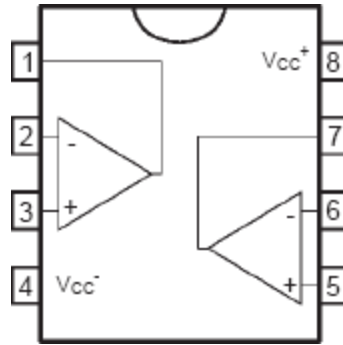

Figure 7: TL072 Dual Op Amp Pin Out
5. Next we will build the receiver, which should be built as far as possible to the right on the breadboard. Note that we are using a TL072 chip which includes two op amps on one chip. Be sure that the dot on the chip is to the left (the semicircle on the drawing). The pin out for the TL072 dual op amp chip is shown in Figure 7.